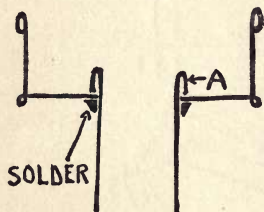

FIG. 32.
**Cutting a Hole in the Drip Cup.**—When the candle socket is completed, a hole should be cut for it through the bottom of the drip cup. The socket is slipped through this hole until the bottom of the flange *A* rests against the bottom of the drip cup, see Fig. 32. A small chisel should be used to cut the hole through the bottom of the drip cup. The
Set the bottom edge of the candle socket in the center of the drip cup and trace a line around it with a sharp pencil or a steel scribe. Then place the drip cup on a block of wood and cut out the disk of tin inside the line, using a series of chisel cuts to follow the line. Take care not to cut the hole too large—it should just fit the candle socket as shown in the sectional drawing, Fig. 32. A half-round file may be used to file away any rough or jagged edges left by the chisel cutting.
The different parts of the candlestick are now ready to be soldered together. The socket should be fitted into the drip cup and these two soldered together first. Apply the solder to the bottom of the drip cup and socket in the angle where the socket and the drip cup meet, as shown in Fig. 32.